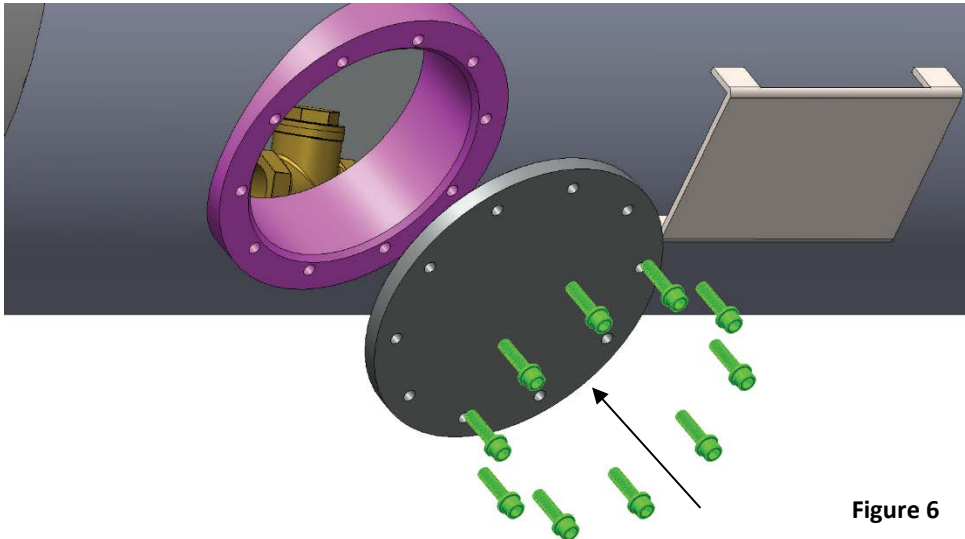

Figure 6
6. Inspect and clean access cover and tank flange for new o-ring installation. Install new access cover o-ring. Use motor oil to lubricate the o-ring in the access o-ring cover groove. Using Anti-Seize solution on the bolts, bolt the access cover onto the fuel tank. (Figure 6) (**Torque: 8 lb ft - Utilize the torque sequence chart in the above figure**) (Figure 7)